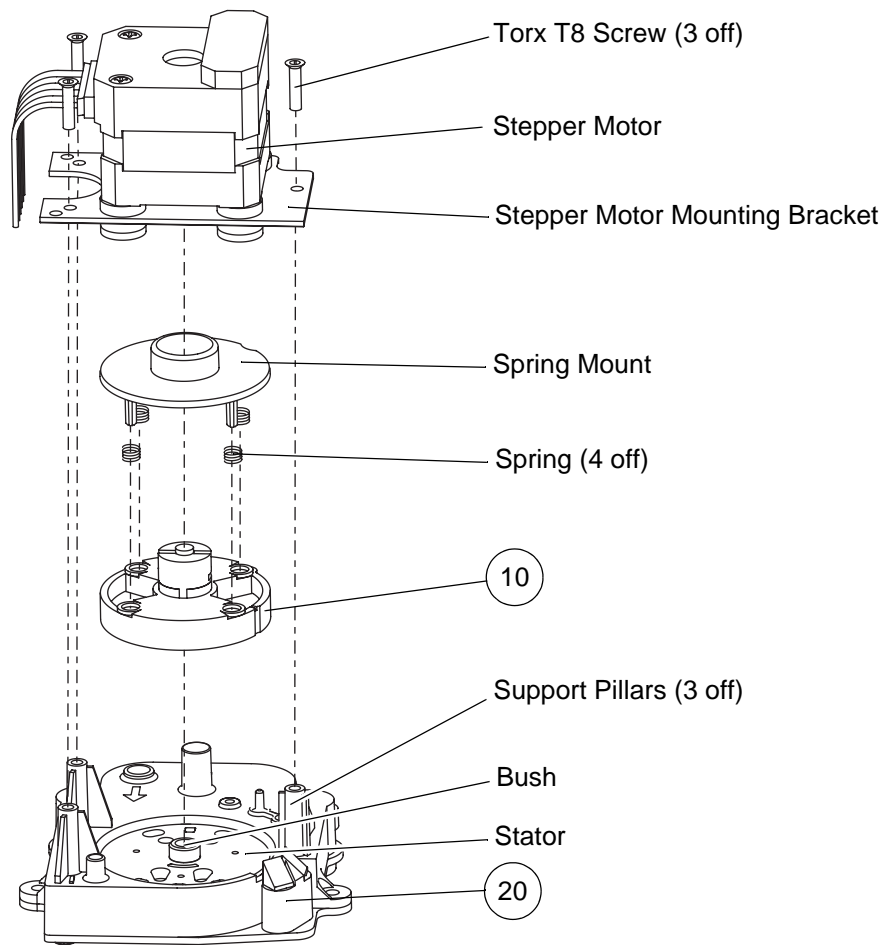

Figure 44 - Replacing the Motor and Manifold Sub-Assemblies
19.12 Put the motor and manifold assembly on a flat surface, and using a Torx T8 screwdriver, remove the three screws which secure the stepper motor mounting bracket to the old module and stator sub-assembly (refer to Figure 44).
19.20 Lightly press the spring mount and new pinned rotor assembly together, so that the four springs are retained between them, and do the following (refer to Figure 44):
19.24 Assemble the stepper motor and mounting bracket onto the spring mount and the module and stator sub-assembly, as follows (refer to Figures 44 and 46):
- 19.24.3 Using a Torx T8 screwdriver, install the three screws to secure the stepper motor mounting bracket to the module and stator sub-assembly (refer to Figure 44).